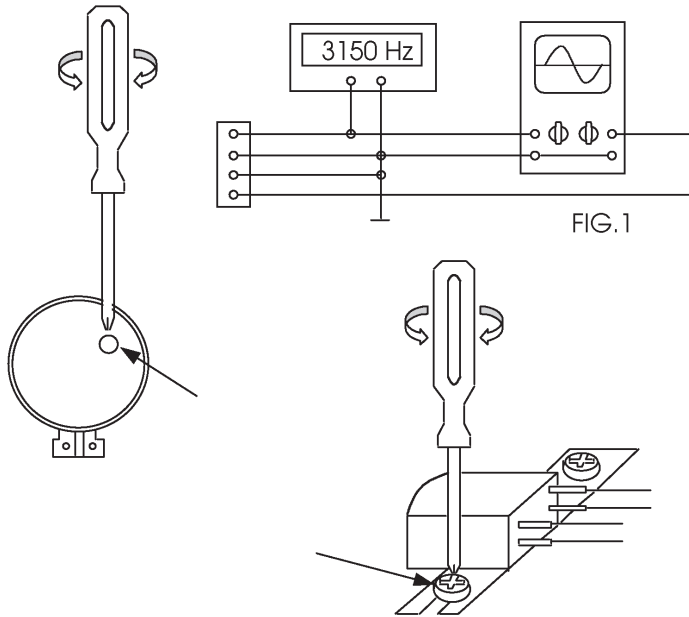

FIG.1
- 2.1 - Connect the equipments as shown in the Fig. 1.